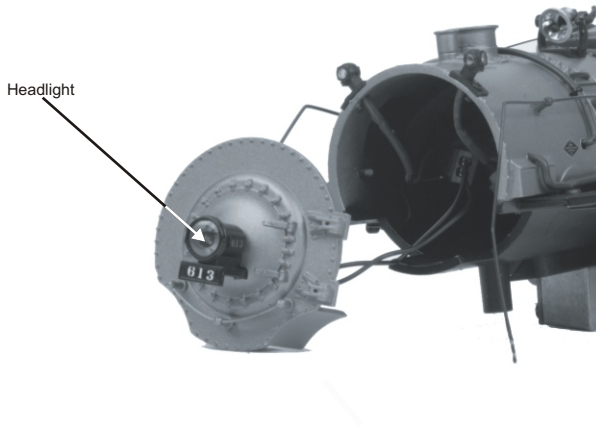

Figure 13
1. Remove boiler shell by removing the 3 Body Mount Screws shown in Figure 13